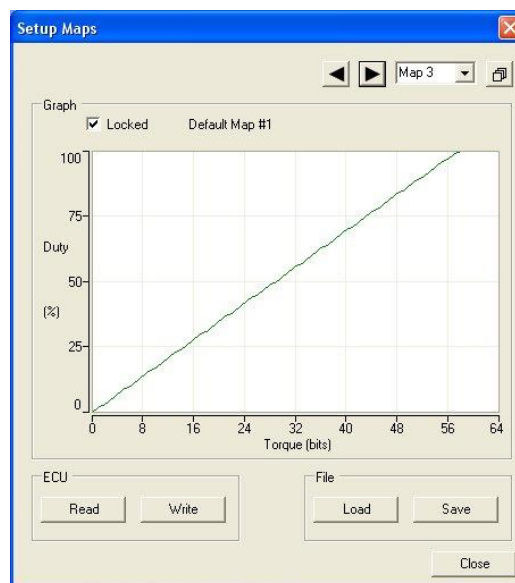

Figure 10 - Setup Maps Dialog (One Map)
- Use the arrow buttons or the drop-down box in the top right-hand corner of the dialog to select the map to be edited (Figure 10).